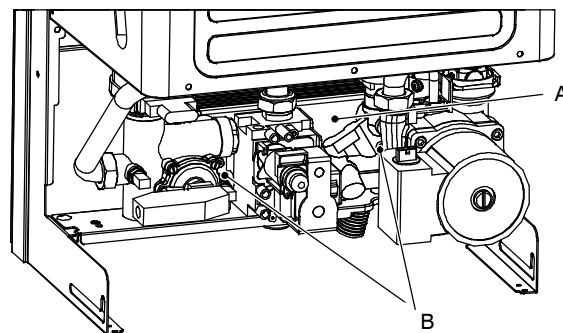

Fig. 16
The d.h.w. heat exchanger A in Fig. 14 and Fig. 16 allows the instantaneous transfer of heat from the primary hydraulic circuit to the water destined for d.h.w. use.
- 3 Completely unscrew the two Allen key screws B (Fig. 16) which hold the exchanger to the brass groups.